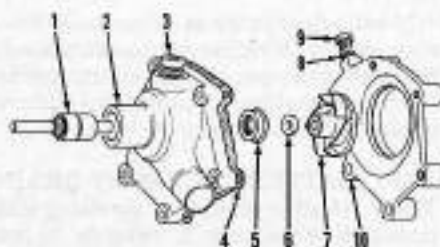
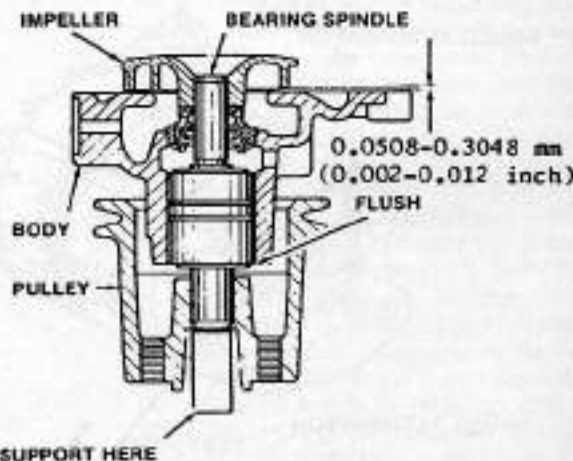

Fig. 95—Exploded view of typical water pump showing component parts and their relative positions. Pump body design varies, but basic assembly is the same.
Fig. 96—Sectional view of typical water pump showing parts location and assembly information. Refer to paragraph 178 for additional clarification.
178. To disassemble water pump, first note spindle end position in water pump pulley for reassembly. Using a suitable puller, remove pulley from spindle. Press bearing assembly (1—Fig. 95) out of pump body (2) and impeller (7) from impeller end. Remove impeller, seal ring (6) and seal (5) from pump body (2).
To reassemble, press bearing assembly (1—Fig. 95) into body (2) with smaller diameter spindle end entering pulley side of housing first, until outer race of bearing assembly is flush with housing as shown in Fig. 96. Support pump on impeller end of spindle and press pulley on spindle to depth noted
during disassembly. Install new seal (5—Fig. 95) in pump body (2). Fit sealing ring (6) over spindle end and slide down against seal. Smooth sealing faces must be together. Support pump on spindle at pulley end (Fig. 96) and press impeller on until 0.0508-0.3048 mm (0.002-0.012 inch) clearance between impeller (7) and pump body (2) is attained. See Fig. 96. Rotate pulley to assure smooth operation.